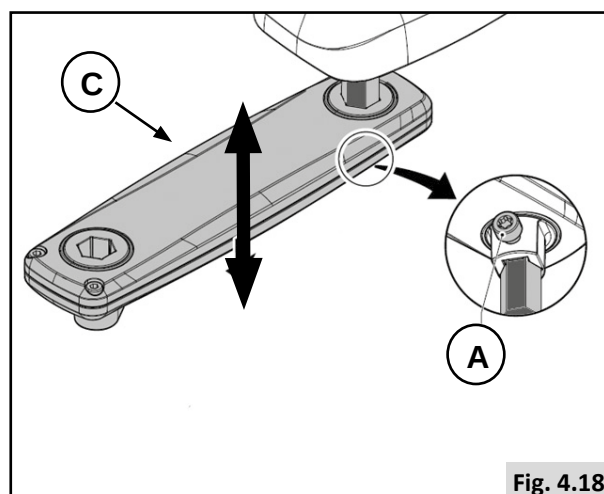

Fig. 4.18
Pre-setting height of the controller (1), (Fig. 4.18).
1. Loosen (A).
2. Slide (C) into desired position.
3. Tighten (A).